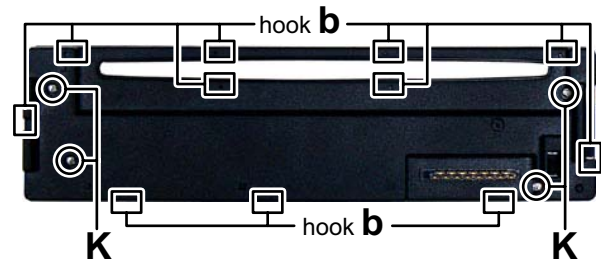

Fig.7
3.1.5 Removing the Switch board (See Fig.7)
3.2.4 Removing the PHOTO BOARD assembly (See Fig.7 and 8)
- (1) From the bottom side of the top cover, release the projection **e** from the notch of the disc plate. (See Fig.7.)
- (2) Take out the disc plate in the direction of the arrow. (See Fig.7.)